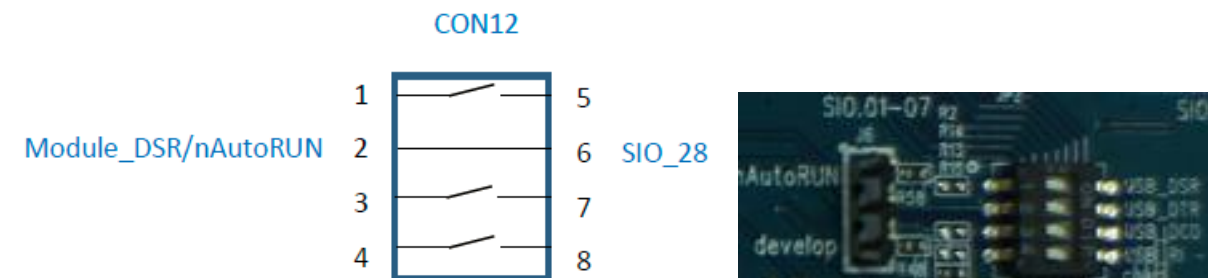

Figure 4: DIP switch CON12
**Note:** The additional lines of the DIP switch CON12 are not currently utilised and need to remain open, as shown in Figure 4.